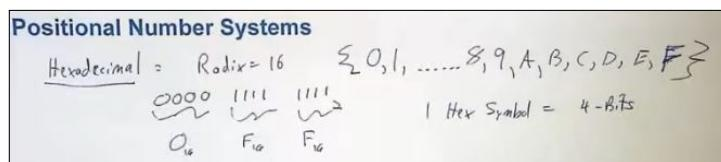

Figure 1.5: Hexadecimal System
- A nice example is the Solar radiation data-logger system (Figure 1-5 in the textbook [2])
Also when have long binary numbers, it is hard to communicate with them. That's why hexadecimal system is used (see Figure 1.5)